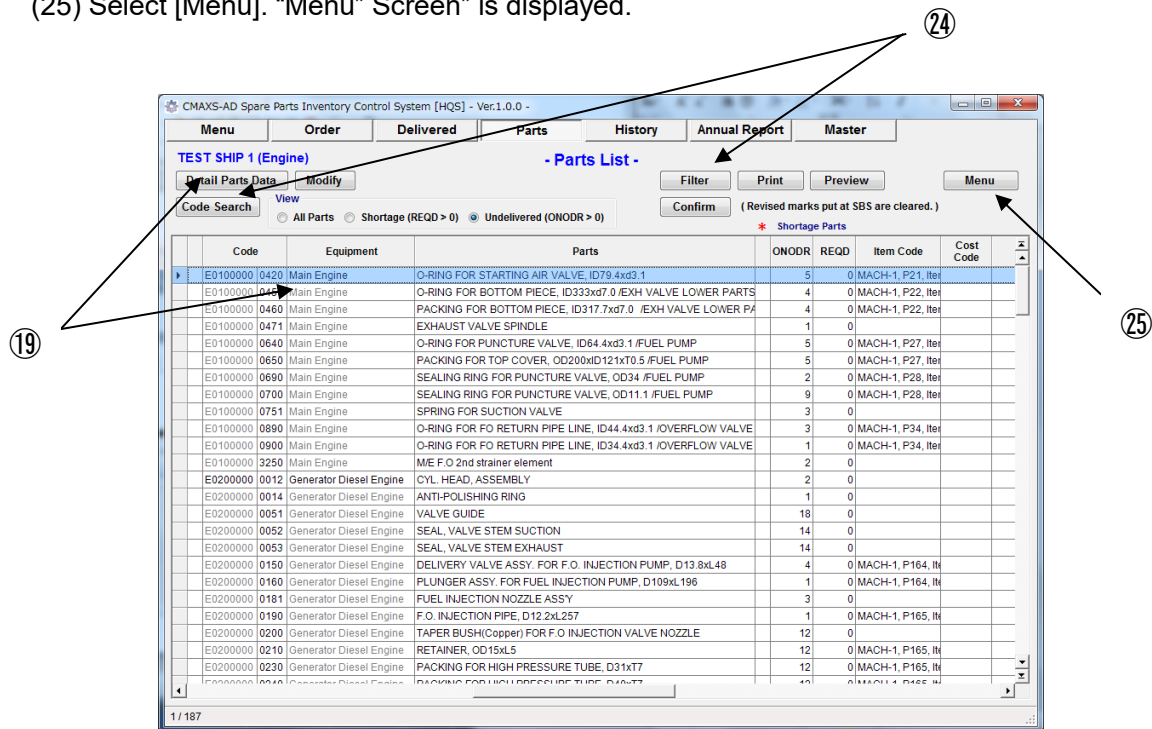

Fig.12-6 Parts List (Delivered Parts) Screen
(18) "Parts (delivered Parts) Screen"(Fig.12-6) is displayed.